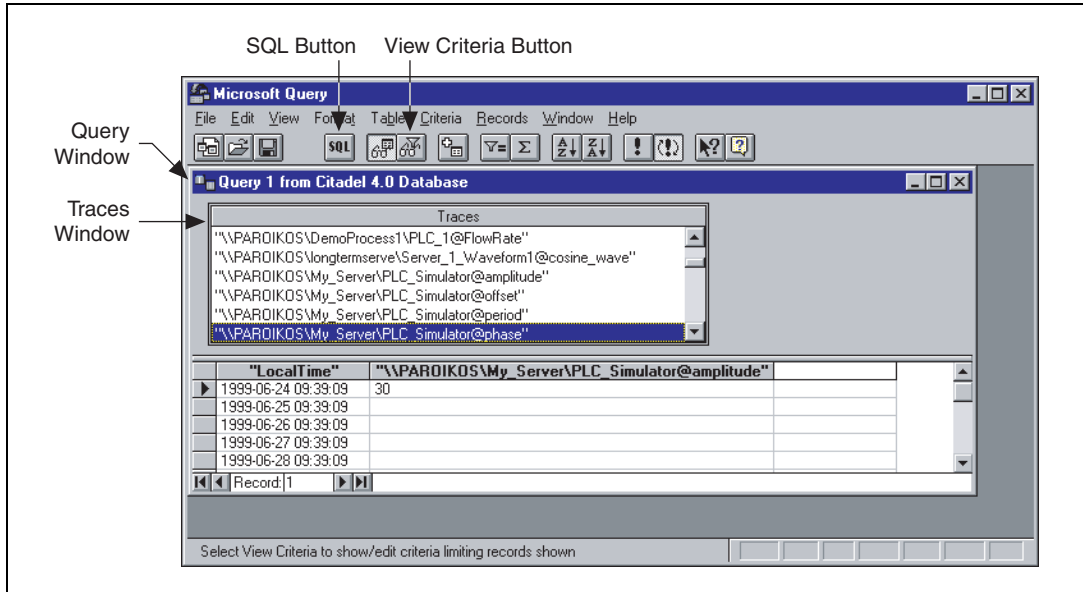

Figure B-1. The Query Window with Traces Table
Microsoft Query presents the full Query Window with the **Traces** and **Points** tables as shown in Figure B-1. The names in these tables are a comprehensive list of all name values that have been logged to Citadel.
6. To view a trace, double-click or drag the field you want to view to a blank column in the data pane. In Figure B-1, `LocalTime` and `"\\PAROIKOS\My_Server\PLC_Simulator@amplitude"` have been dragged down.
The data set in Figure B-1 was retrieved using no specific criteria, so the ODBC driver used the default. Although there are several ways to specify criteria, this example uses the criteria pane.